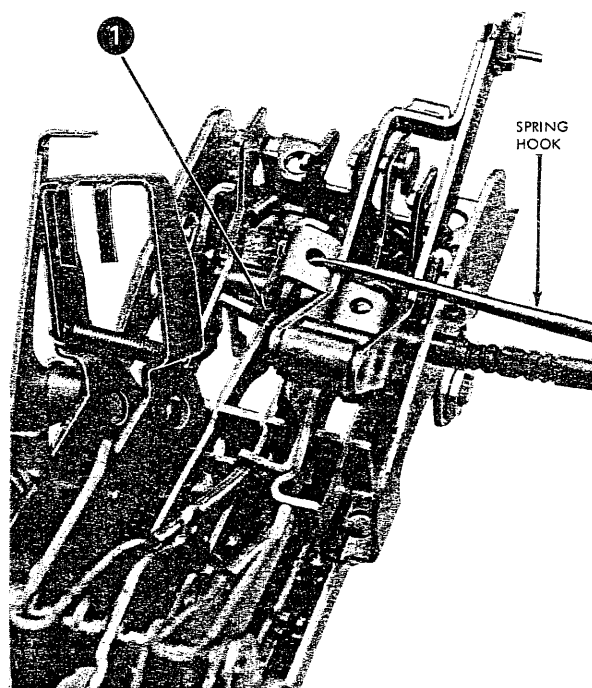

Figure 4-44. Clutch-Release-Arm Removal
- b. Spring the interposers adjacent to the release arm slightly, and roll the release arm out from under (No. 1, Figure 4-44).